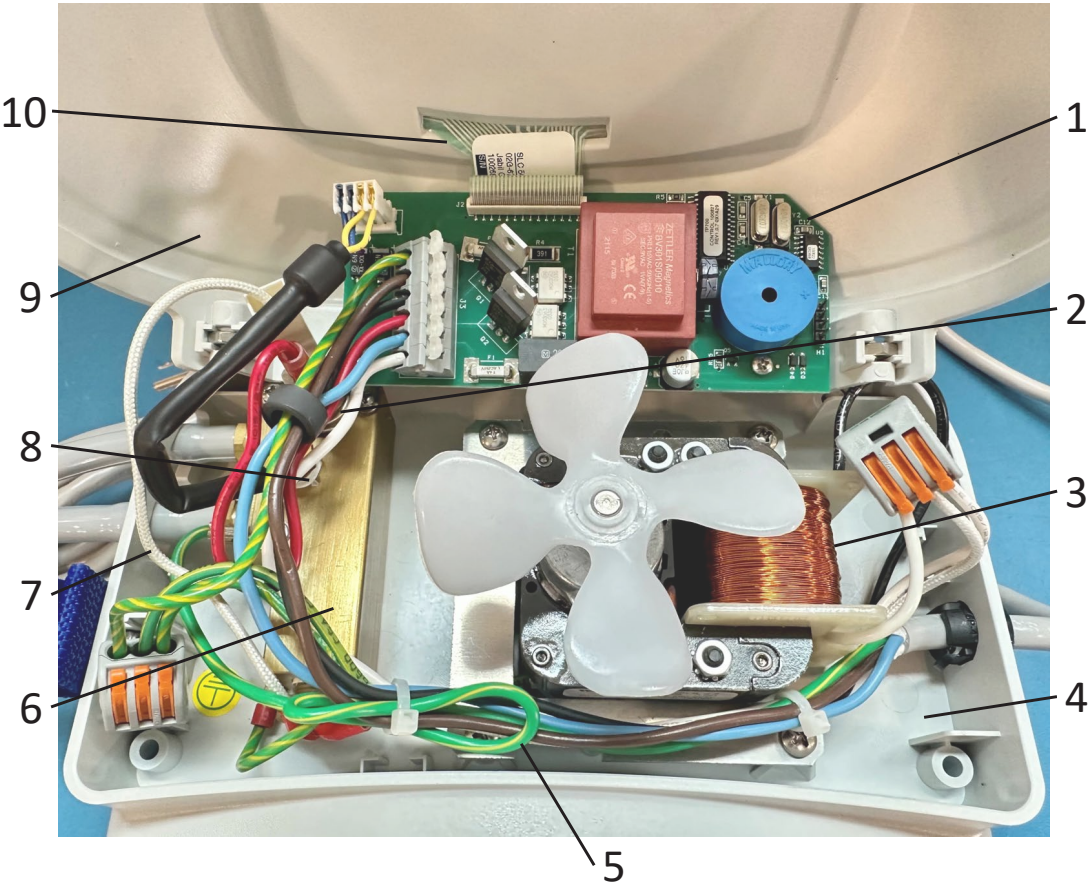

Figure 5: T/Pump® Temperature Therapy Pump service items
- Using a ground resistance meter, measure the resistance between the ground pin on the plug and the brass manifold block, see Figure 5 on page 27 item 6. You can access the ground through the hole where the hose connects to the pump (see Figure 4 on page 22).
The pump is a sump configuration. It is magnetically coupled to an impedance protected, shaded pole AC Motor (Figure 5 on page 27 item 3).
The Orificed Hose Fitting (Figure 5 on page 27 item 7) is internal to act as an opening. This maintains a back pressure in the pad to make it resistant to flow restrictions.
6. Remove the Keypad Ribbon cable (Figure 5 on page 27, item 10) from the PC Board (Figure 5 on page 27, item 1).
7. Remove the Temperature Sensor (Figure 5 on page 27, item 8) from the PC Board.